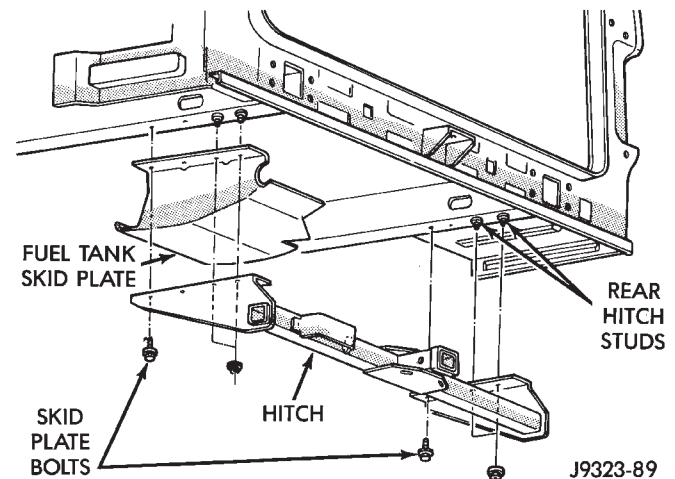

Fig. 8 Trailer Hitch
- (1) If necessary, remove trailer tow wire harness connector from hitch.
- (2) Support hitch.
- (3) Remove nuts that attach the towing tube to frame sills (Fig. 8).